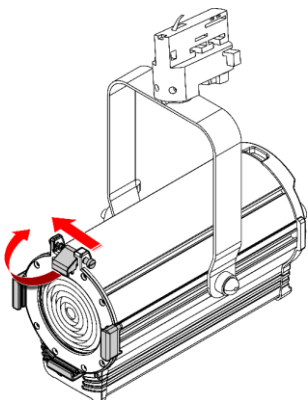

Fig. 16
- 01) Push the **spring-loaded screw (09)** and at the same time lift and flip backwards the **color frame clip (08)** (see Fig. 16).